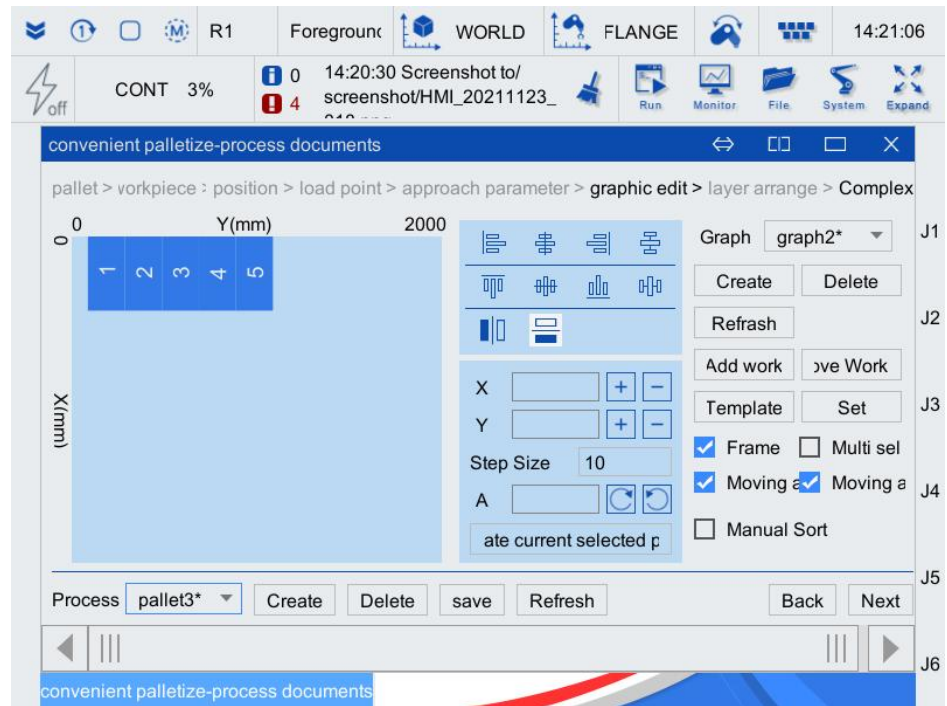

Figure 3-50 Editing interface of graphics on the second layer of stacks in multiples of five
Step9. The workpiece arrangement is shown in Figure 3-50. Click <save> on the right.